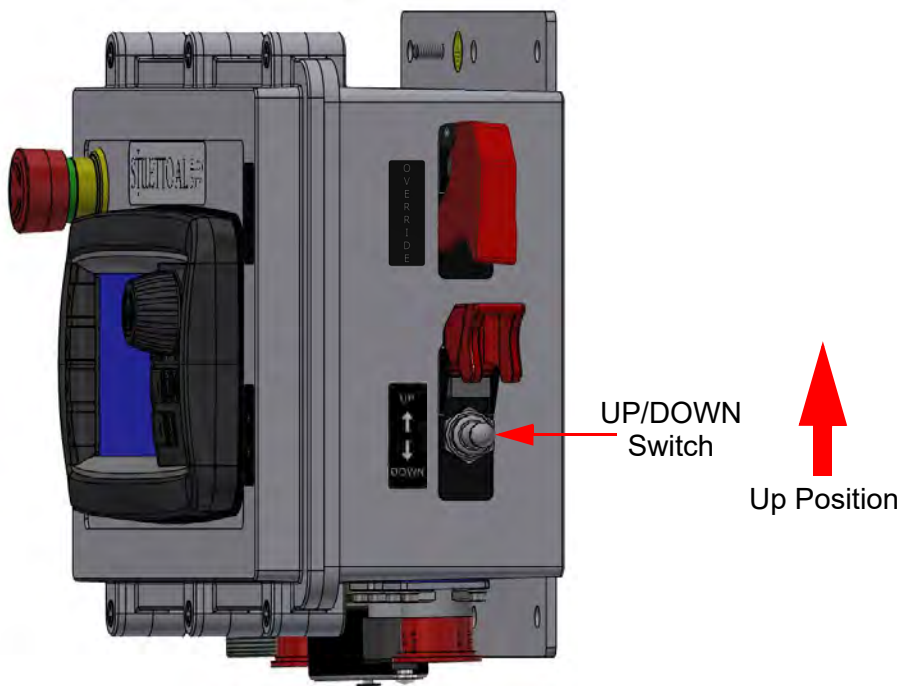

Figure 6-1 UP/DOWN Switch Up Position
2. Hold the UP/DOWN Switch in the up position (Figure 6-1). As long as the UP/DOWN Switch is held in the up position, the mast will extend and the display will show the appropriate intermediate extension height. Be sure to stay clear of the collars during operation as they create a pinch point hazard.